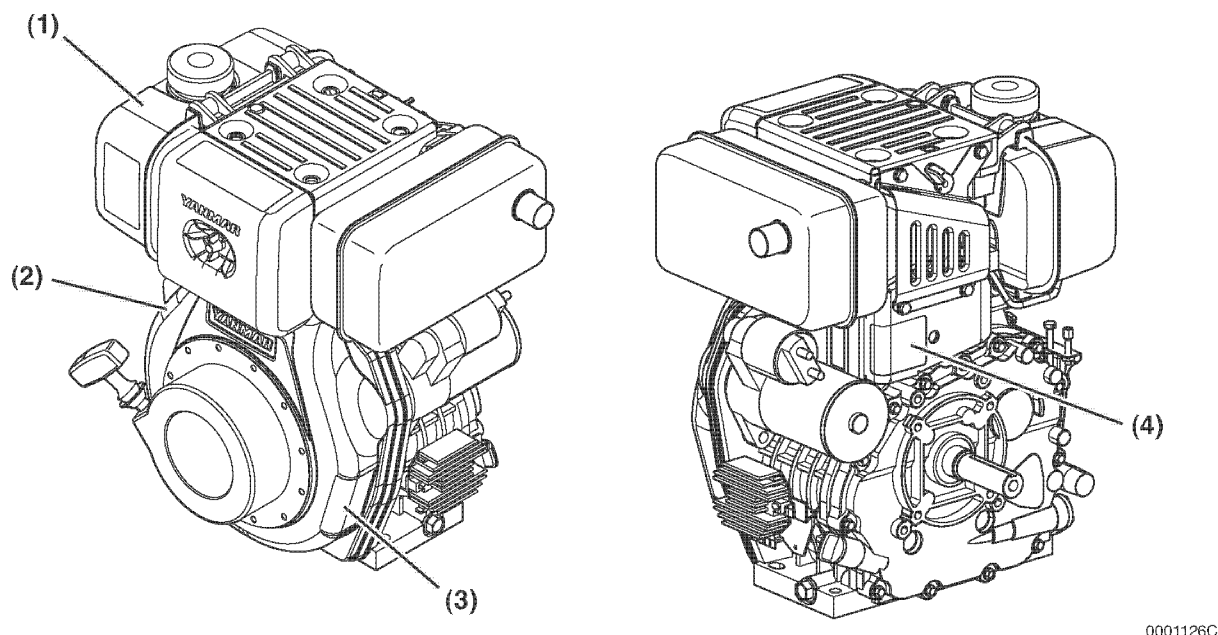

Figure 4-2
Figure 4-2 shows the location of regulatory and safety labels on Yanmar LN Series engines.
The typical location of the emission control information label for LN Series engines is on the top of the fuel tank (**Figure 4-2, (1)**).
- On L48N engines not equipped with a Yanmar fuel tank, the label is located on the flywheel cover (**Figure 4-2, (2)**).
- On L70N and L100N engines not equipped with a Yanmar fuel tank, the label is on the flywheel cover (**Figure 4-2, (3)**).
Typical location of the engine nameplate is on the engine side cover as shown in **Figure 4-2 (4)**.